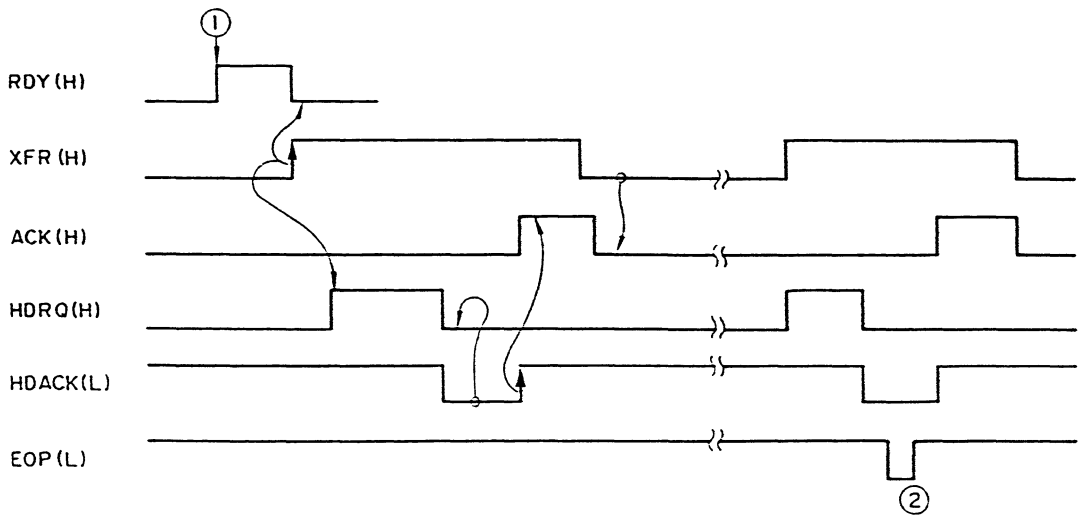
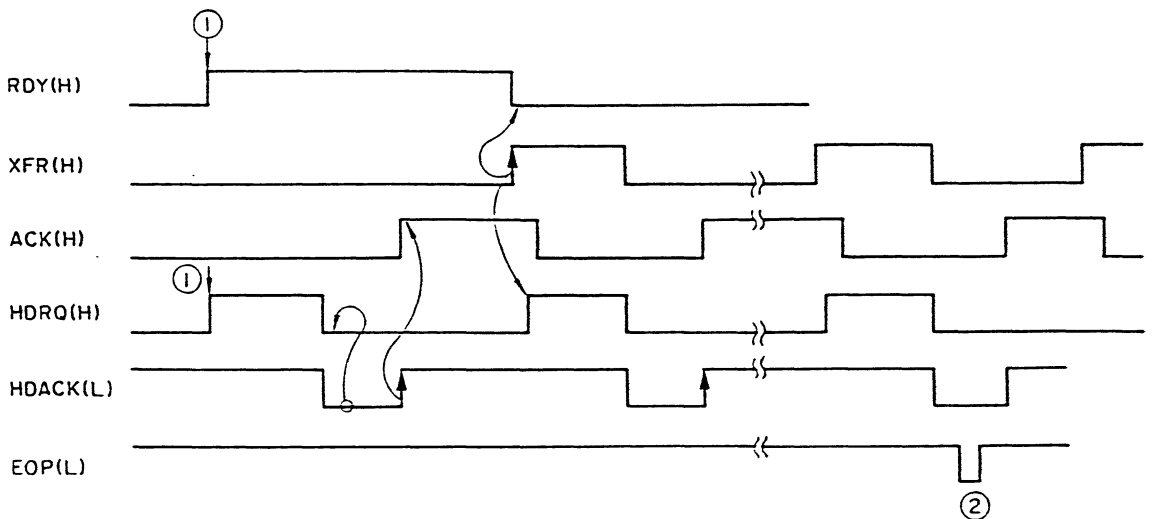

Fig. 316 Timing in write operation
Fig. 317 Timing in read operation
HDRQ(H), HDACK(L) and EOP(L) are interface signals with DMAC. During write operation, these signals have the timing relation with the host interface signals ACK(H), XFR(H), and RDY(H) as shown in Fig. 316; during read operation, they have the timing relation with ACK(H), XFR(N) and RDY(H) as shown in Fig. 317.